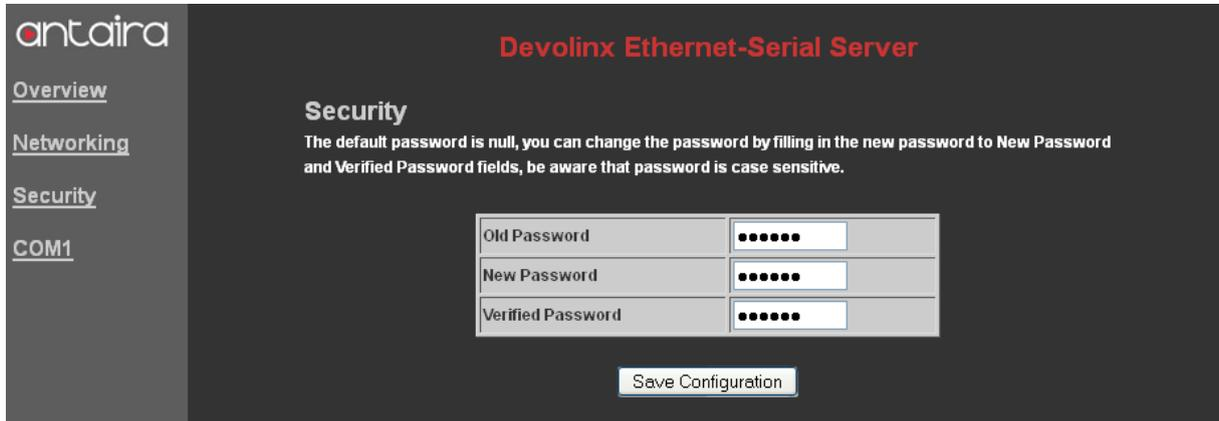

Figure 3.19 Change the password
- Click on the **Security** link and the following screen appears. (Figure 3.19)